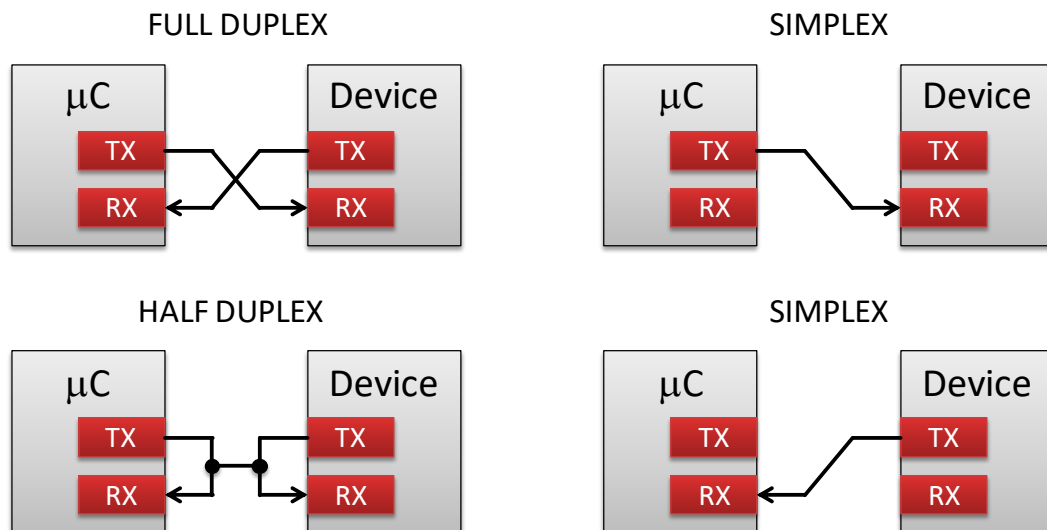

Figure 7.1. Typical UART interconnections.
One of the most popular serial interfaces is the so-called universal asynchronous receiver/transmitter (UART), developed with the aim of communicating with distant devices, using circuits that are typically on a separated printed circuit board [6]. Depending on the distance, a longer cable may be used to connect the devices, in which case a driver/receiver – aka transceiver – circuit is needed (for example, RS232 and RS485 transceivers). The data are sent over a single wire in one direction. The communicating devices have a transmit output (TX) and a receiver input (RX) pin. These must be cross-connected, i.e. the TX pin of one device should be connected to the RX pin of the other and vice versa. The interface is symmetrical: any side can send data asynchronously. If the TX pin can be disabled, even a single wire can be used for bidirectional data transfer. Sometimes one-directional data transfer is sufficient. Figure 7.1 summarises the connection possibilities.